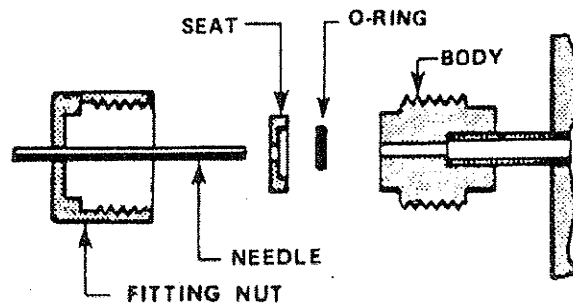

Figure 19 Assemble Gas Injection Fitting
5. Thread the nut, the seat, and the O-ring onto the injection needle. See Figure 19.